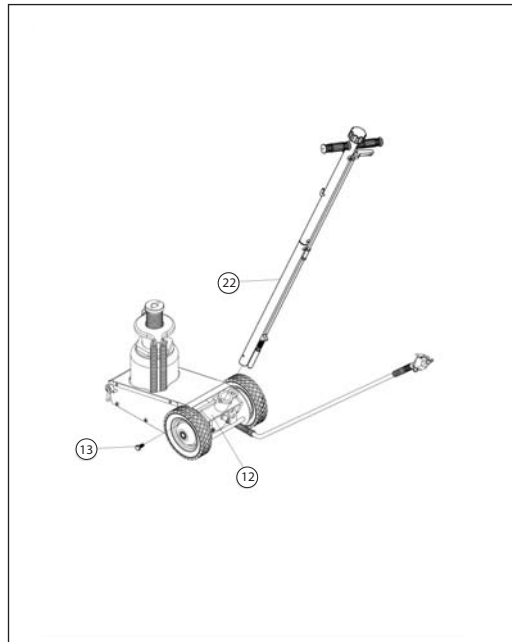

Figure 2
## 2. Insert Handle (22) into the Handle socket (12) and secure with bolt (13). (See figure 2 below)